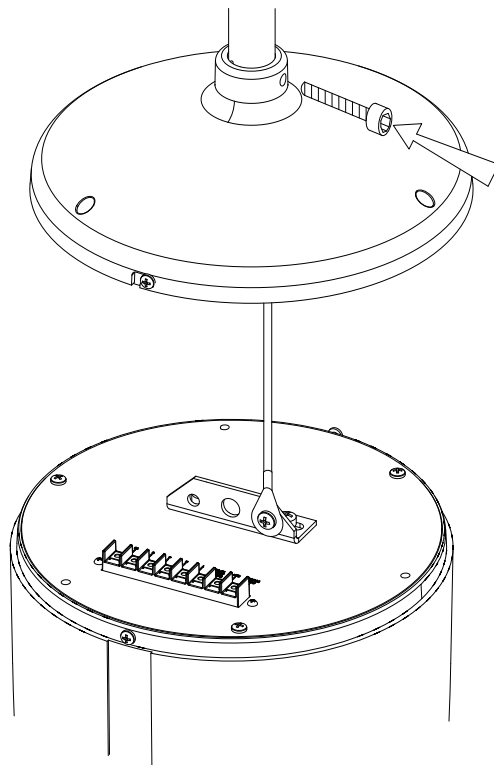

Figure 9
4. Screw the PM speaker top cover onto the bottom of the down pipe, install the safety screw through the side of the top cover and through the end of the down pipe. (Figure 9)
6. Route the eyelet end of the safety cable through down pipe and the cover of the PM speaker, attach the eyelet to one of the smaller mounting holes on the support plate of the PM speaker with the included mounting screw. (Figure 9)
8. Position the speaker under the top cover, align the side cover screws and rotate the speaker clockwise to align the top cover mounting screw holes. Reinstall the 3 mounting screws, tighten and tighten the side cover screws. (Figure 9)